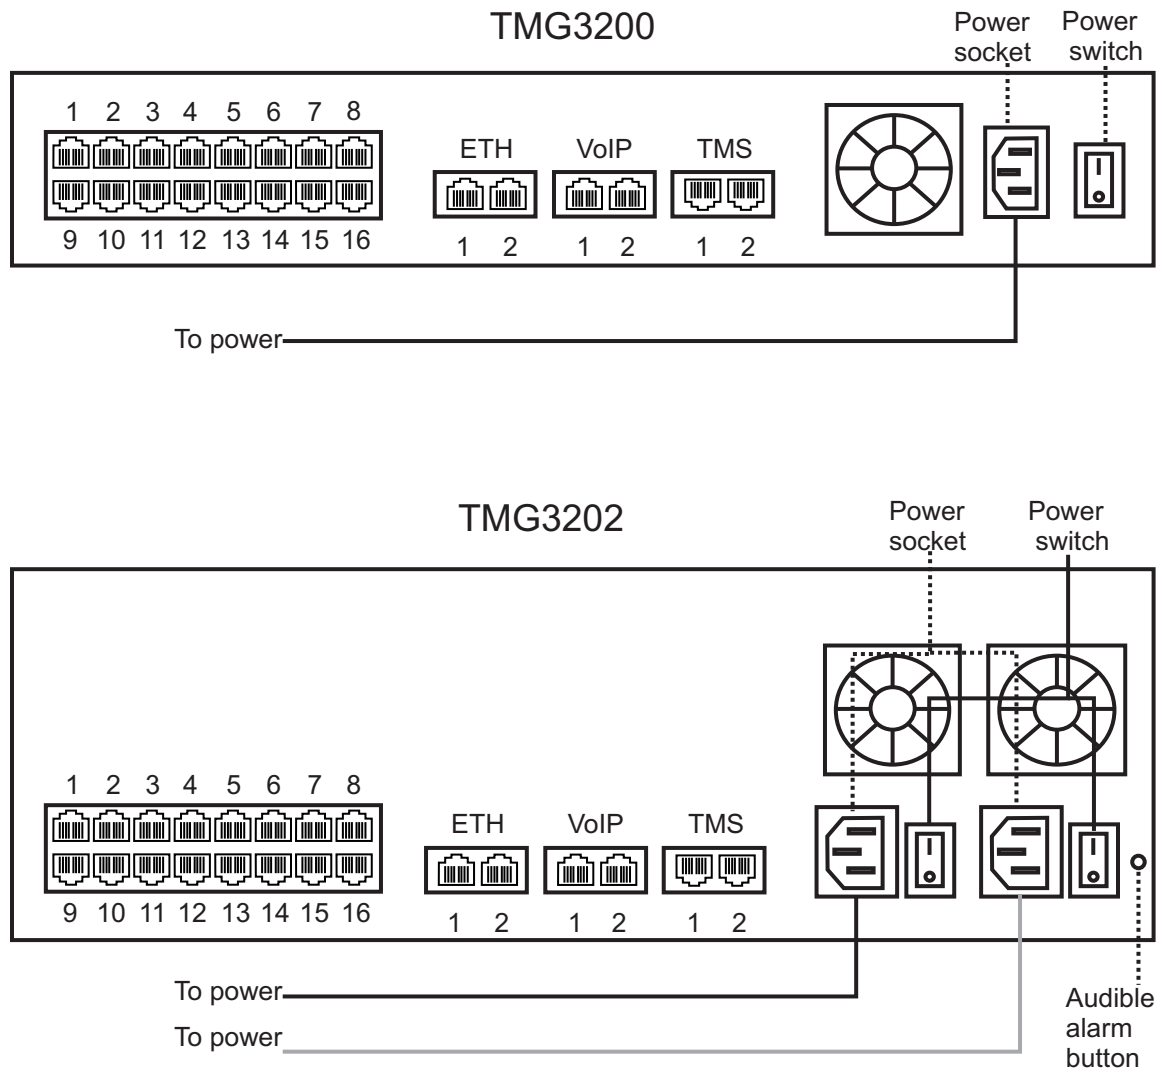

Figure 2.9 AC Power Connection
1. Connect one AC power cable between the AC connector of the TMG3200 and an AC supply. See figure 2.9 on page 20. If the TMG3200 features a second AC connector, connect an additional AC power cable between this connector and an AC power supply. If the TMG3200 features a second power supply and it is not connected to an AC power source, press the green button located at the rear of the unit to disable the audible alarm. See figure 2.9 on page 20.